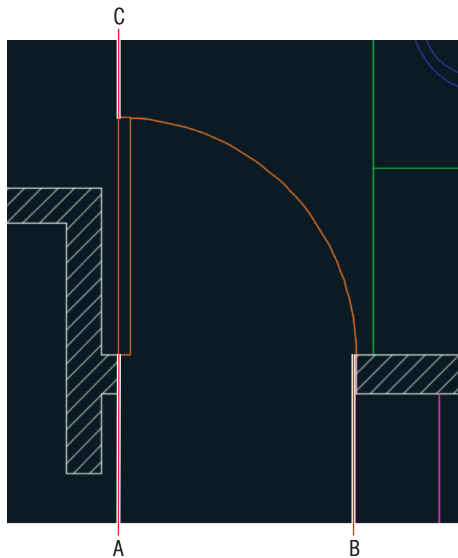

FIGURE 2.24 Drawing a door swing with an arc option
4. Type INT, press Enter to invoke the Intersection object snap, and click the center point A shown in Figure 2.24.
5. Hold Shift and right-click. Select Endpoint from the context menu and click the start point B (shown in Figure 2.24).
6. Type **END**, press Enter, and click the arc endpoint C (shown in Figure 2.24). The arc appears, and the command is completed.